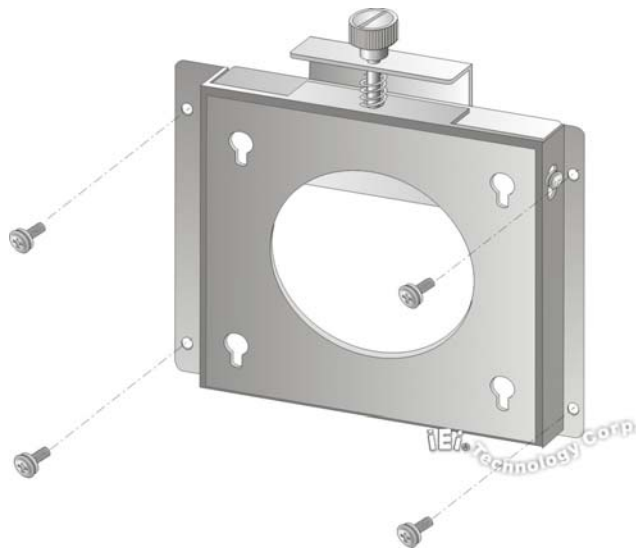

Figure 4-13: Wall-mounting Bracket
- Step 5:** Secure the mounting-bracket to the wall by inserting the retention screws into the four pilot holes and tightening them (**Figure 4-13**).